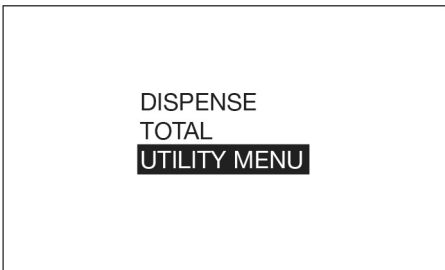

FIG. 11
2. Select the UTILITY MENU option (Fig. 11). (Instructions for accessing Menus are provided in the Menu Screens section of this manual, page 17.)